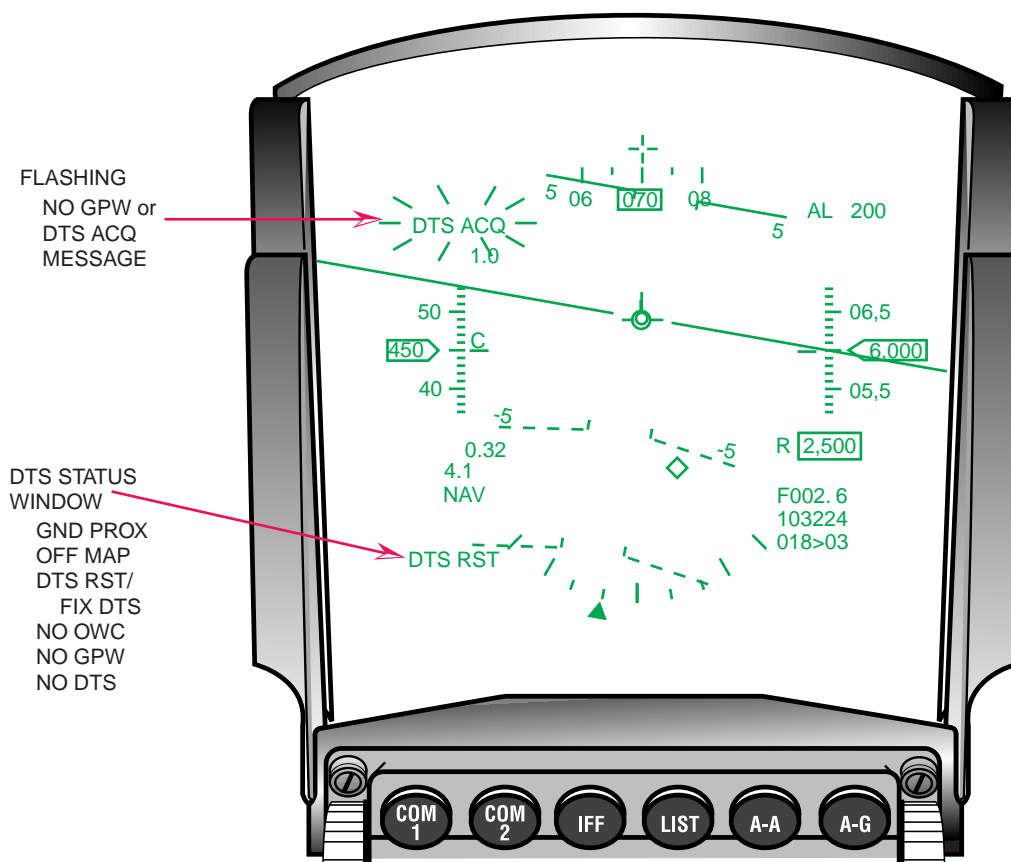

Figure 2-2 HUD DTS Status Messages
- 5) DTS Status Changes: PVI for the display of "DTSFIX" and "NO GPW" on the HUD (Figure 2-2) has been changed. First, the "DTSFIX" mnemonic has been changed to "DTSACQ." "DTSACQ" flashes in the HUD above the airspeed scale, instead of top-center HUD, when TRN is in Acquisition Mode and PGCAS is not selected. If the PGCAS function is selected before TRN goes into Acquisition mode, a flashing "NO GPW" is displayed instead of "DTSACQ". Depressing Warn Reset changes the flashing "DTSACQ" or "NO GPW" mnemonic to a steady condition. Neither "DTSACQ" nor "NO GPW" is displayed when the INS is doing an In-Flight Alignment (IFA).